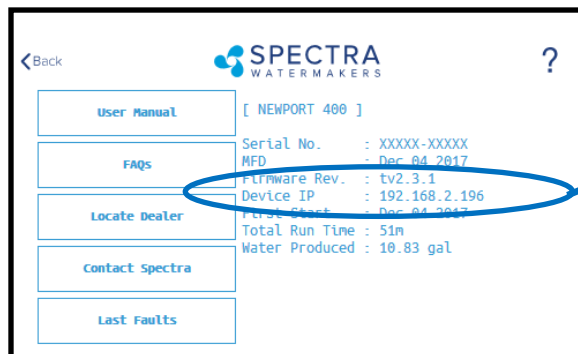

Fig. 3
5. Note the line 'Device IP' shown in Fig. 3 and record the 10 digit numerical address on the front of this manual.